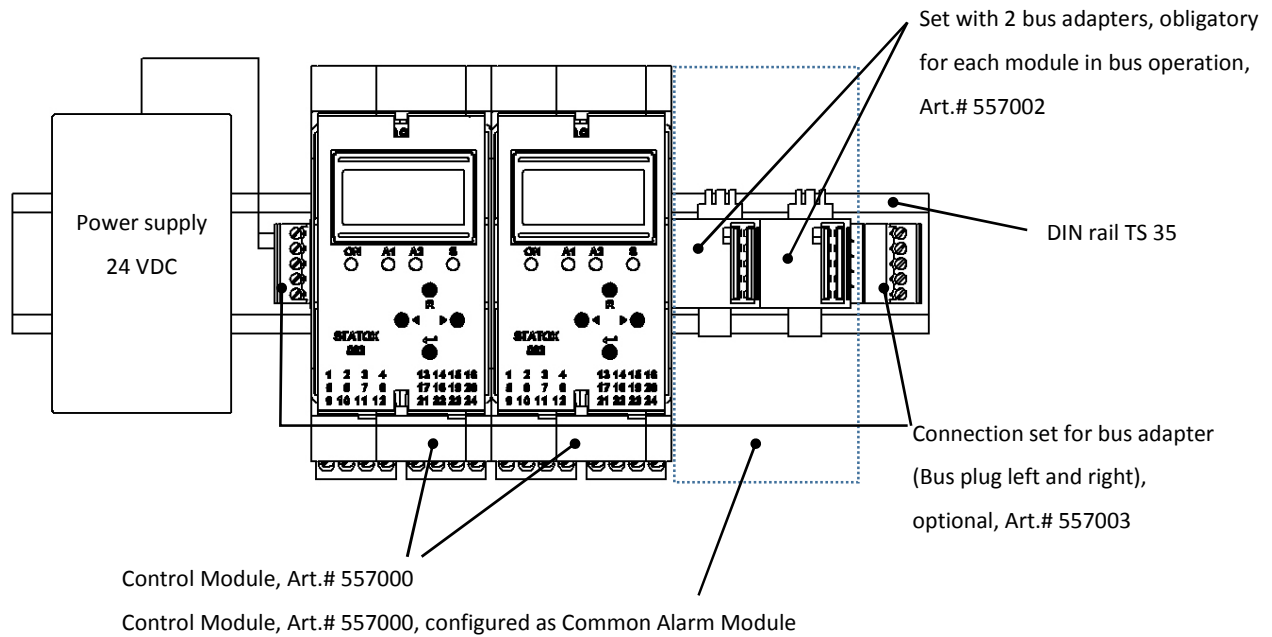

Figure 1: Requirements for bus operation, sample installation
1. Plug the bus adapters together and snap them on the DIN rail as shown in **Figure 1**.